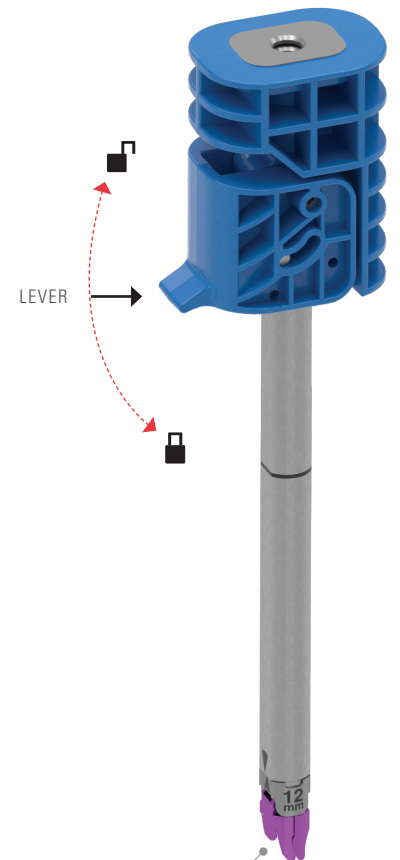

Fig. 7A. Implant Loaded onto Inserter
2. Flip the lever so the bottom of the lever aligns with the bottom of the handle, pulling the proximal third of the Implant into the shaft of the Inserter (Fig. 7A). The Implant is now locked on to the Inserter.